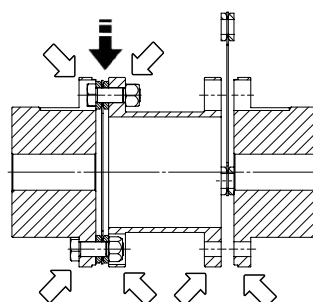

Figure 4
4.1.6. Engage the second disc (2) between the spacer (3) and the second hub (1) and assemble with screws and nuts (4) as indicated in fig. 4.